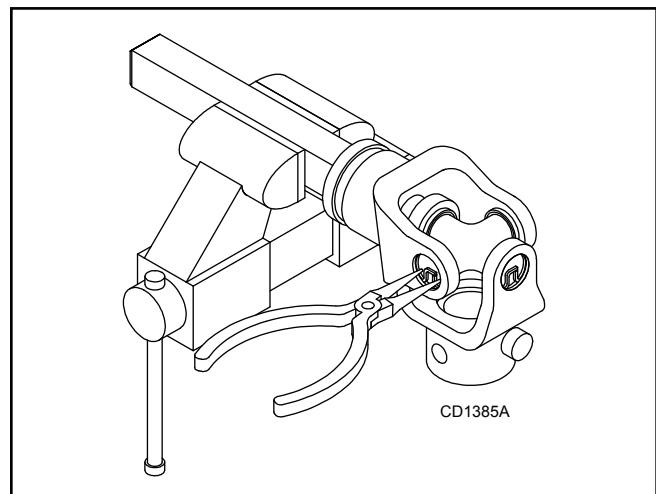

Figure 26.
1. Remove external snap rings from yokes in four locations as shown in Figure 26.